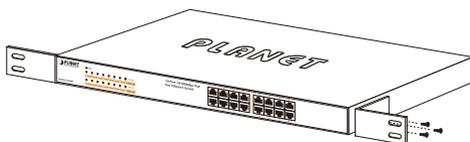

Figure 3-2: Attaching the Brackets to the PoE Fast Ethernet Switch
Step 2: Attach a rack-mount bracket to each side of the PoE Fast Ethernet Switch with supplied screws attached to the package. Figure 3-2 shows how to attach brackets to one side of the PoE Fast Ethernet Switch.